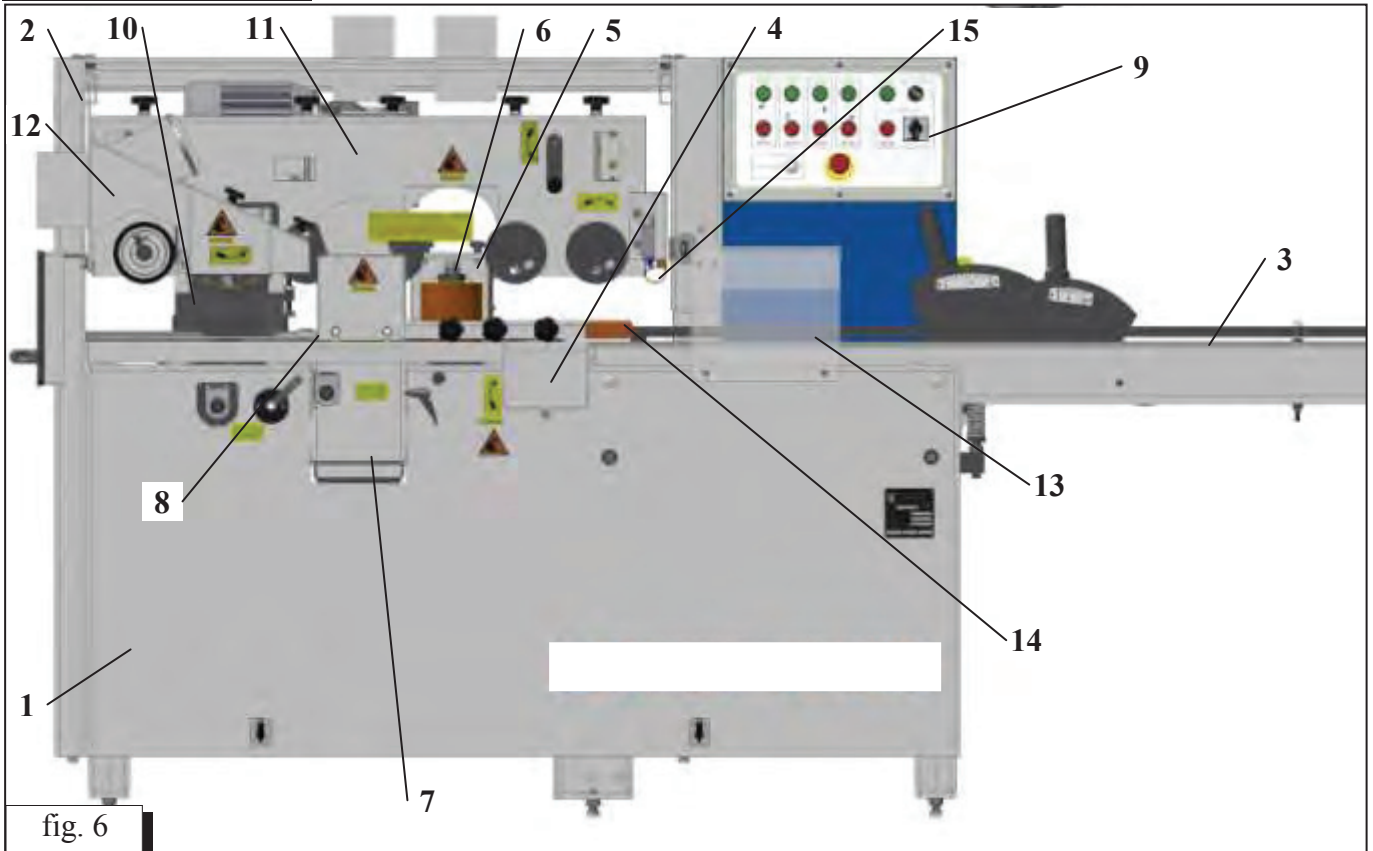

fig. 6
Machine layout (fig. 6)
10. The maximum allowance on the upper side (approximately 10 mm) of the fed material is limited by end switch **15** (Figure 6) (with its operation the feeding movement stops).
11. The maximum allowance on the left side (approximately 10 mm) of the fed material is limited by mechanical stop **14** (Figure 6).